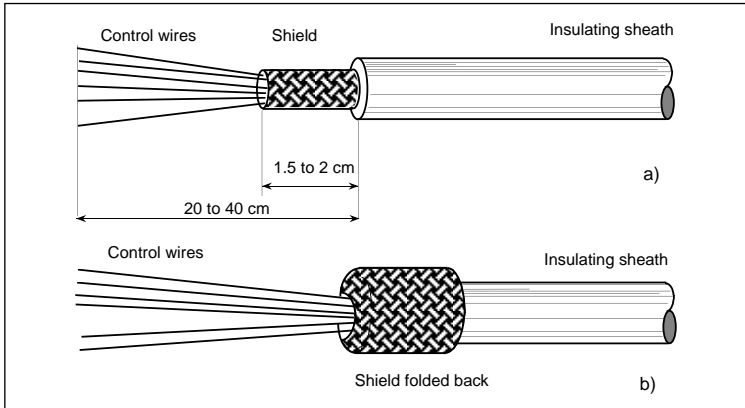

Figure 3-5 Control cable stripping
- **Strip** the shielded cable as shown in figure 3-5,a.
- **Fold back** the shield on the insulating sheath (figure 3-5,b)